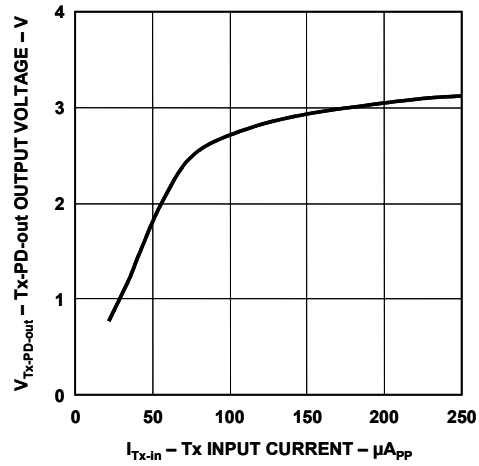
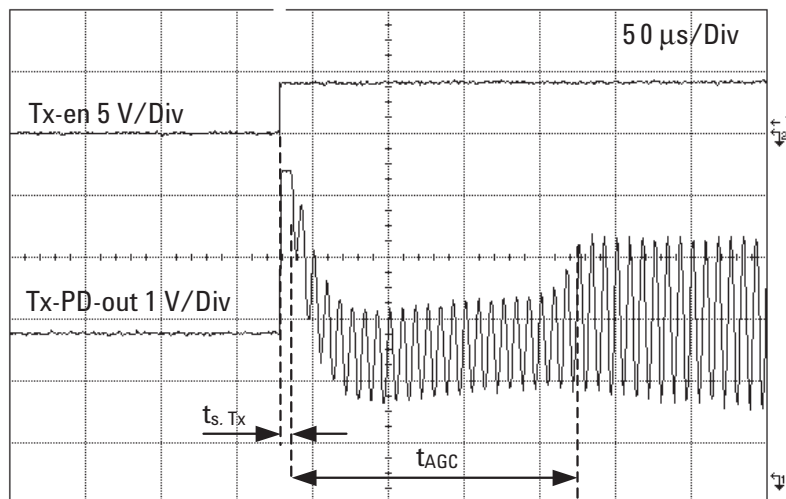

Figure 8. Tx-PD-out output voltage vs. Tx-in input current.
Figure 26. Tx-PD-out AGC response time.
1. Time from transmit is enabled ( $V_{Tx-en}$  is set to logic high) until output (Tx-PD-out) is available. See Figure 26 in the Application Information section.
2. Time from output (Tx-PD-out) is available until Tx-PD-out signal reaches 66% of its steady state level. See Figure 26 in the Application Information section.
variations in the optical channel over temperature and time. The Tx-PD-out output signal is effectively stabilized for input Tx-in signals of between  $150 \mu\text{A}_{\text{PP}}$  and  $250 \mu\text{A}_{\text{PP}}$  (see Figure 8). The AGC circuit starts to function  $10 \mu\text{s}$  after the Tx-en signal is set to logic high. After a period of  $180 \mu\text{s}$  the Tx-PD-out signal typically reaches 66% of its steady state level (see Figure 26). To ensure correct operation of the internal circuitry, an external  $1 \mu\text{F}$  capacitor needs to be connected from pin 11 to GND2.